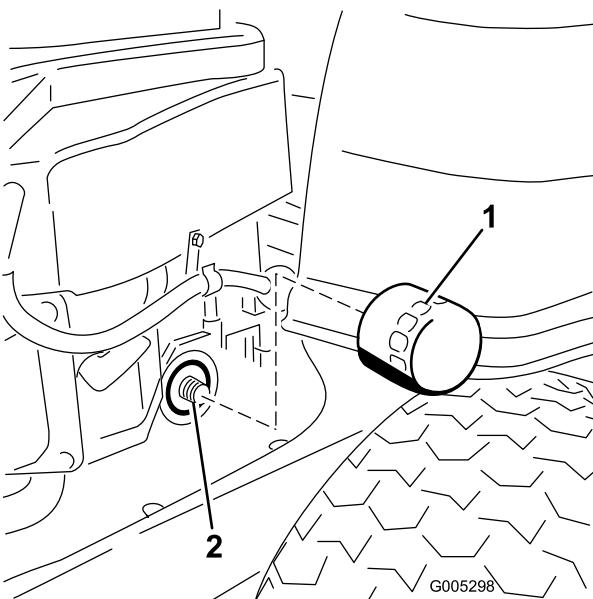

Figure 34
10. Locate the oil filter on the right side of the engine. Remove the old filter and wipe off the filter adapter with a clean cloth (Figure 34).
12. Install the replacement oil filter to the adapter. Turn the oil filter clockwise until the rubber gasket contacts the pad, then tighten the filter an additional 3/4 to 1 turn (Figure 34). Wipe up any excess oil on the frame.